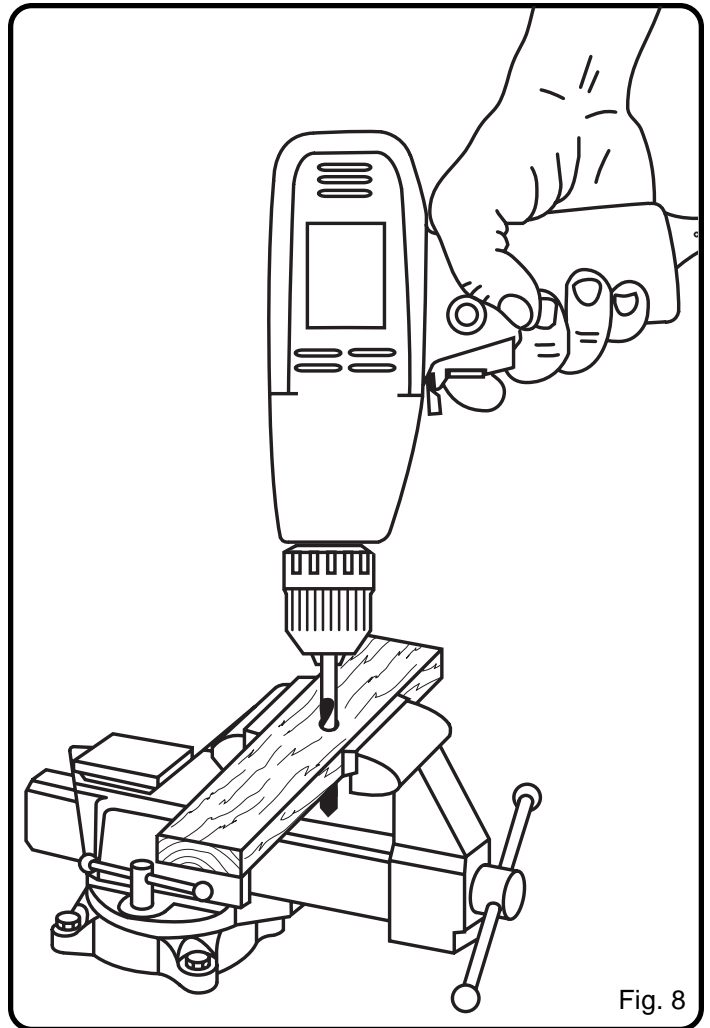

Fig. 8
See Figure 8.
7. Move the drill bit into the workpiece applying only enough pressure to keep the bit cutting. Do not force your drill or apply side pressure to elongate a hole. Let your drill and bit do the work. See Figure 8.